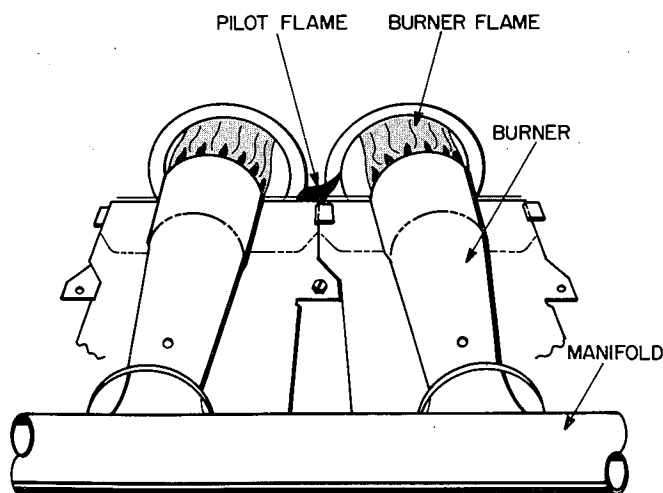

Fig. 8—Pilot and Burner Flame
3. Look through sight glass in burner enclosure and check burner and pilot flame. The main burner flame should be clear blue, almost transparent. The pilot flame should be well defined. See Fig. 8.